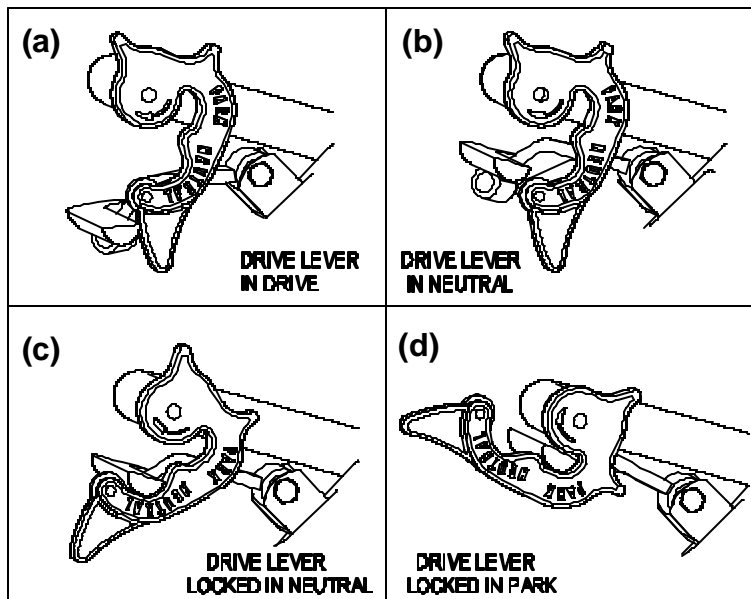

FIGURE 17
- 3.14 Adjust brakes by adjusting wingnut on the upper end of each brake rod. Tighten the wingnut until the brakes engage when the drive levers are squeezed enough to allow the neutral lock/park brake latches to be placed into the “park brake” position. See Figure 17.
For ECS Handles: To lock the drive levers in “*neutral lock*”, squeeze the drive levers to the “neutral” position. See Figure 17 (b). Place thumbs on the inner thumb lobe of the neutral lock /park brake latches and rotate them to the “neutral” position. See Figure 17 (c). Release the drive levers.
To lock the drive levers in “*park brake*”, squeeze the drive levers farther to the “brake” position. Place thumbs on the inner thumb lobe of the neutral lock/park brake latches and rotate them to the “park” position. See Figure 17 (d). Release drive levers.
To place the drive levers in the “*drive*” position, slightly squeeze the drive levers while placing thumbs on the outer thumb lobe of the neutral lock/park brake latches (or the index finger on the front lobe) and rotate them from under the drive levers. **Slowly** and **carefully** release the drive levers. See Figure 17 (a).